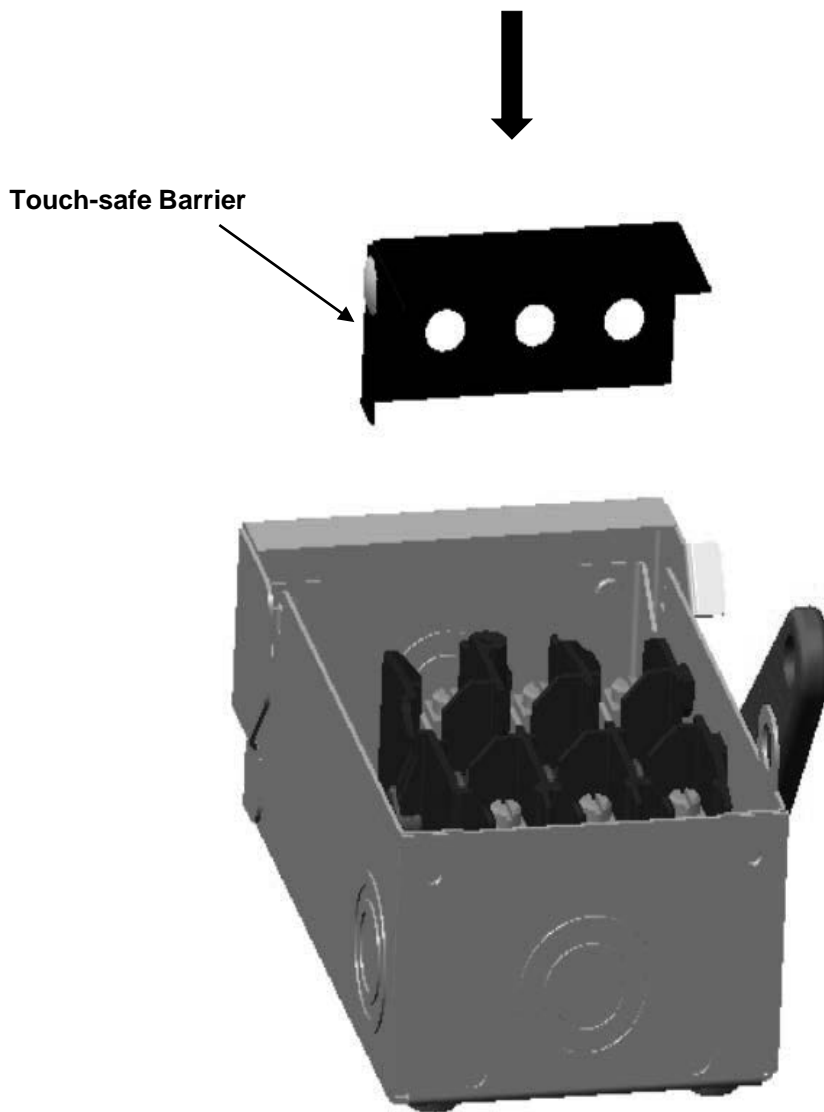

Fig. 1
2. Assemble the Touch-safe Barrier assembly, as shown in Fig. 1.